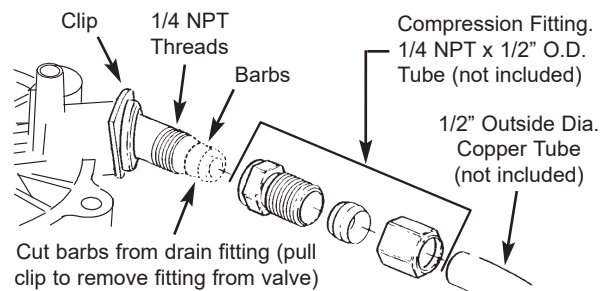

FIG. 4
The house cold water pipe (metal only) is often used as a ground for the house electrical system. The 3-valve bypass type of installation, shown in Figures 4 & 5, will maintain ground continuity. If you use the plastic bypass, continuity is broken. To restore the ground, do the following:
- a. Take a length of 1/2" inside diameter hose and attach to the valve drain fitting, securing it with a hose clamp (See Figures 4 & 5 on pages 7 & 8).
- b. Locate the other end of the hose at a suitable drain point (floor drain, sump, laundry tub, etc.). Check and comply with local codes. Refer to Figures 4 & 5 if codes require a rigid pipe drain run.